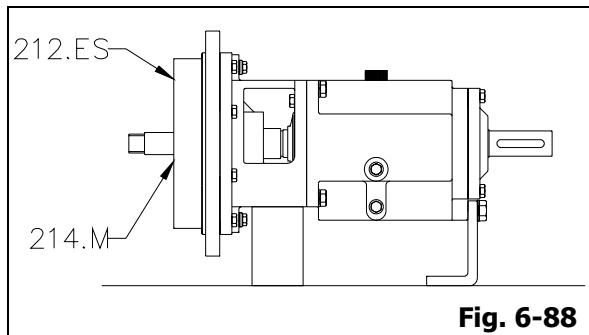

Fig. 6-88
12. Install end ring for mechanical sealing (214.M) assembly carefully into stuffing box cover (212.ES) until the lapped surfaces of the mechanical seal (200) are seated on each others. Align bolt holes and install end ring bolts. Tighten bolts evenly (Fig. 6-88).